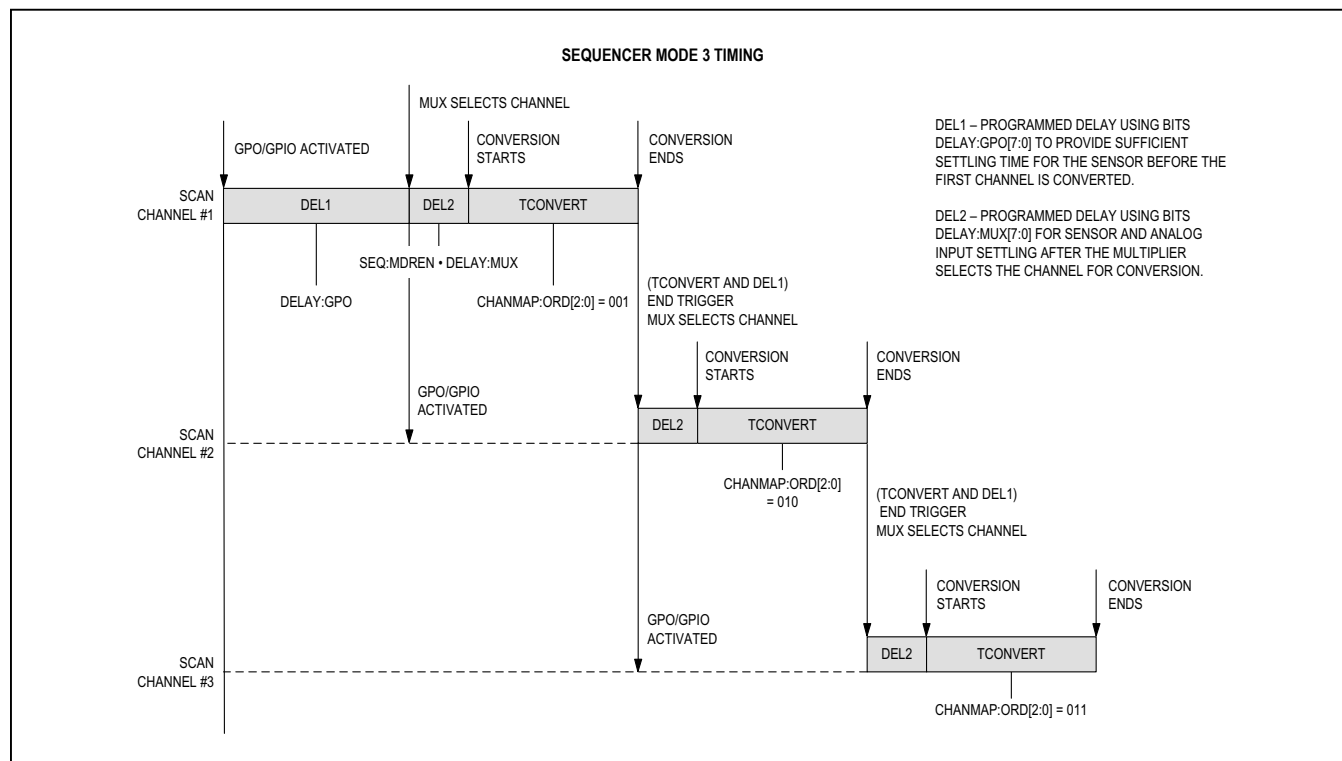

Figure 8. Sequencer Mode 3 Timing Diagram for a Three-Channel Scan
This mode is used to sequentially convert a programmed set of channels in a preset order and sequence the GPO bumps concurrently. The GPO bumps are used to bias external circuitry such as bridge sensors; the common reference (GPOGND) is typically ground. After all channel conversions have completed, the MAX11261 automatically powers down into SLEEP mode. Figure 8 illustrates the Sequencer Mode 3 timing diagram for a three-channel scan. Register GPO_DIR is ignored in this mode as the output controls are controlled by the sequencer.
- e. Enable SEQ:GPODREN for adding a delay (DEL1) before the multiplexer selects the first channel for conversion. See Figure 8 for timing. Set DELAY:GPO to a delay value sufficient for the bias to settle.